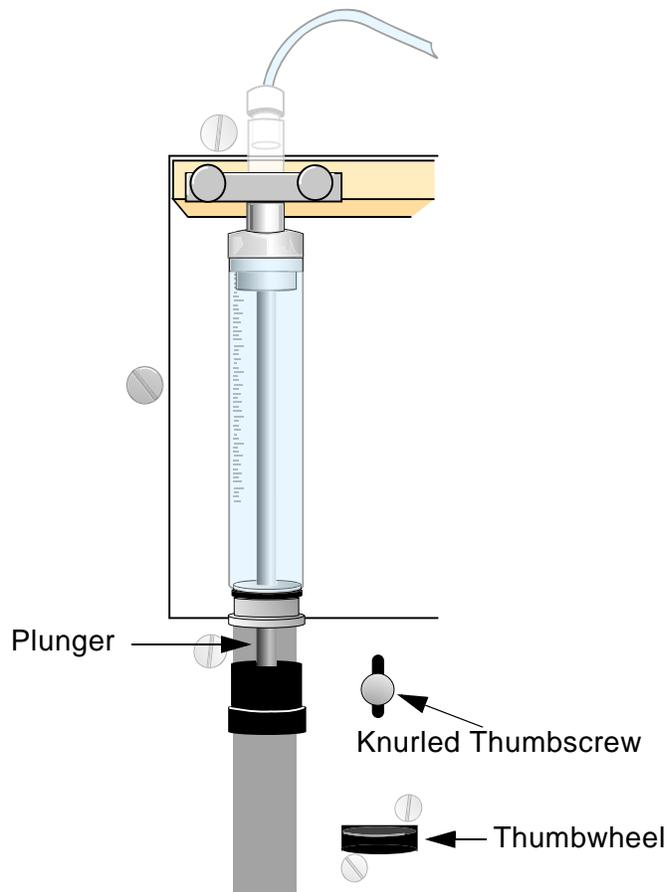

Figure 73. Syringe Knurled Thumbscrew
- 1 Loosen the knurled thumbscrew approximately two turns, as shown in Figure 73 on page 135.